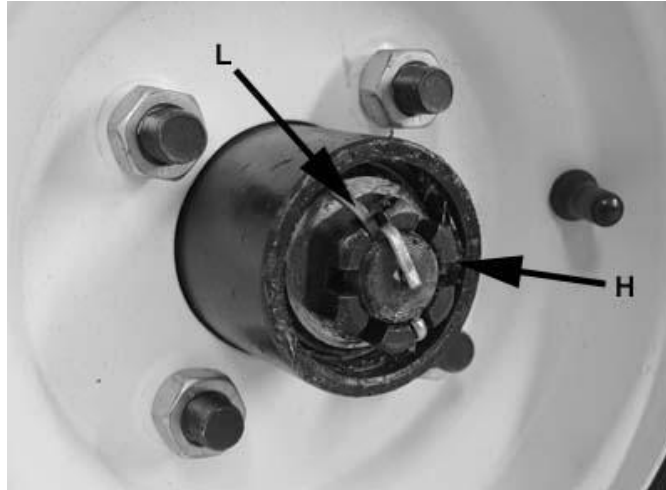

Figure 6-3
4. Remove castle nuts (H) from axle ends.
7. Install the washer and castle nut (H). Tighten castle nut while turning the tire/hub. Tighten castle nut until there is resistance while turning the tire/hub.
8. Install 4mm cotter pin (L) through castle nut (H) and hole in axle end. If holes are not aligned, slightly loosen castle nut no more than one castellation to align holes.
9. Spread cotter pin (L) to retain castle nut. See figure 6-3.